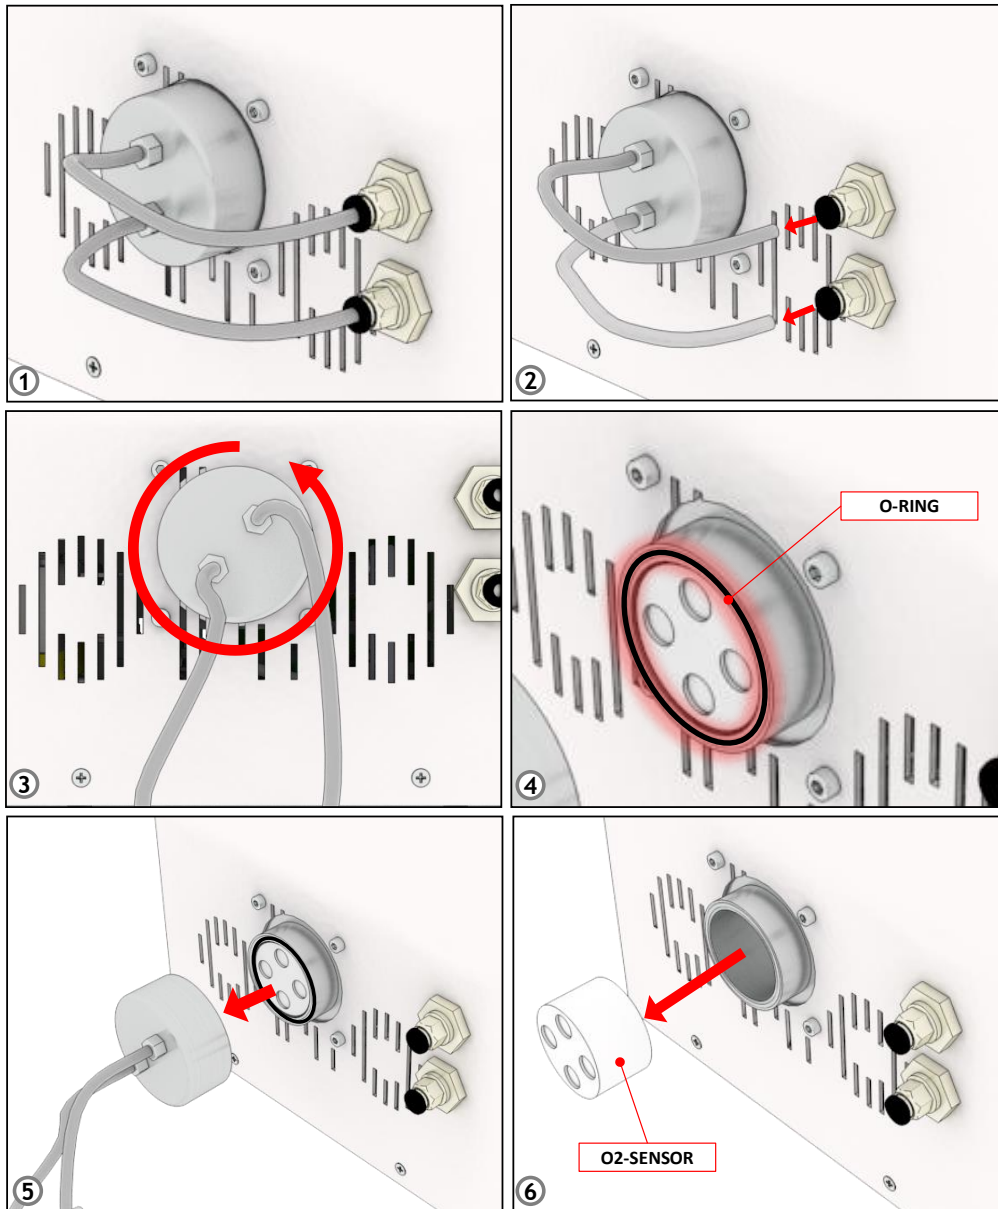

Figure 84. O2 Sensor replacement
1. Disconnect the two tubes from the Oxygen Analyzer – Gas input connector and Oxygen Analyzer – has output connector on the left side of CO2-O2-UNIT-BL [0-10; 0-1] (see image 2 in Figure 84),
2. Unscrew the sensor unit cap (see image 3 in Figure 84) being careful not to lose the O ring (see image 4 in Figure 84).
3. Carefully remove old cell (see image 6 in Figure 84).